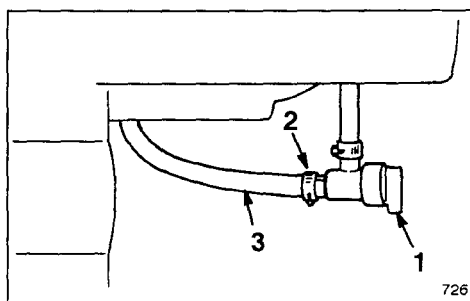

Figure 19
1. Close fuel shut-off valve located under fuel tank (Fig. 19) by rotating valve to the left.
3. Loosen hose clamp securing fuel line to valve and slide line off valve (Fig. 19).